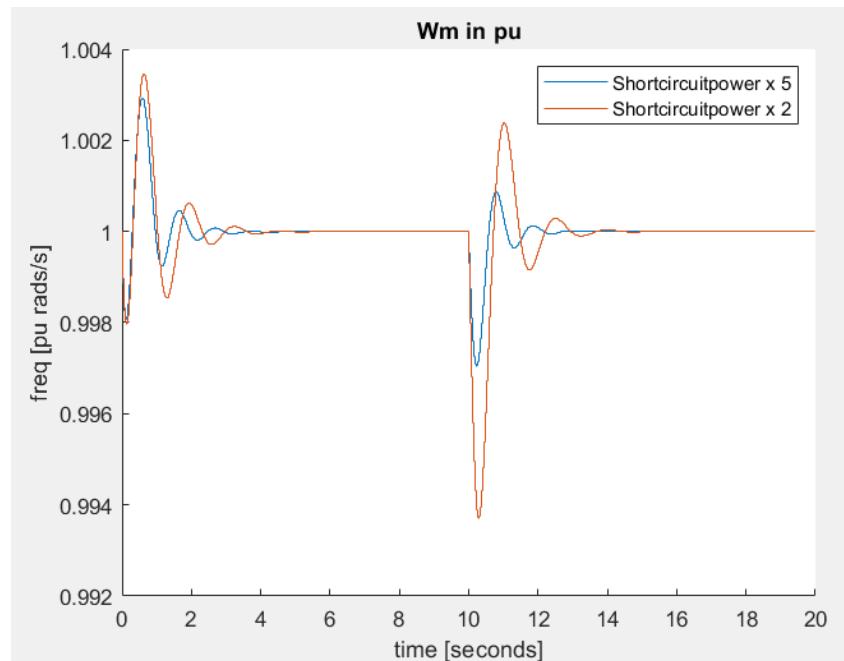
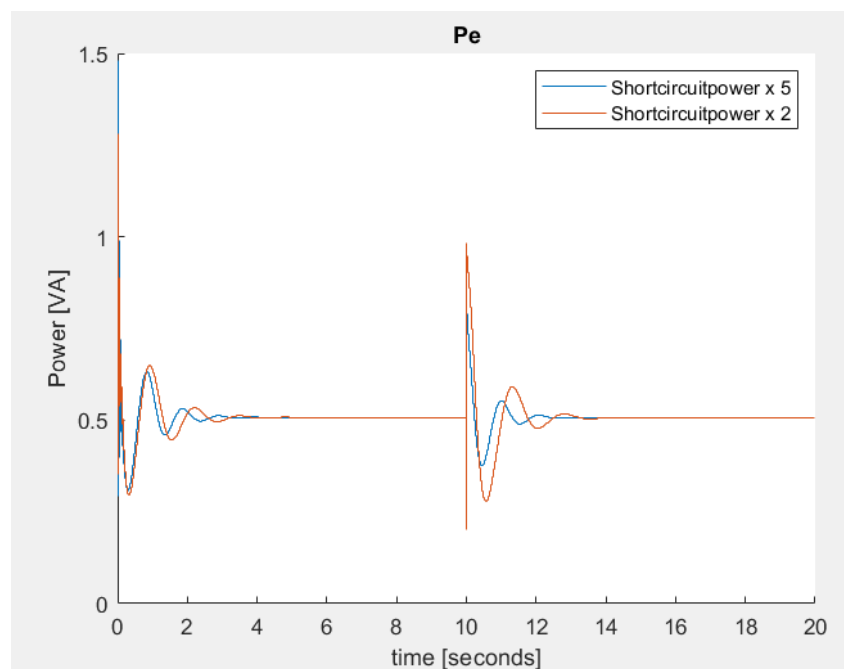
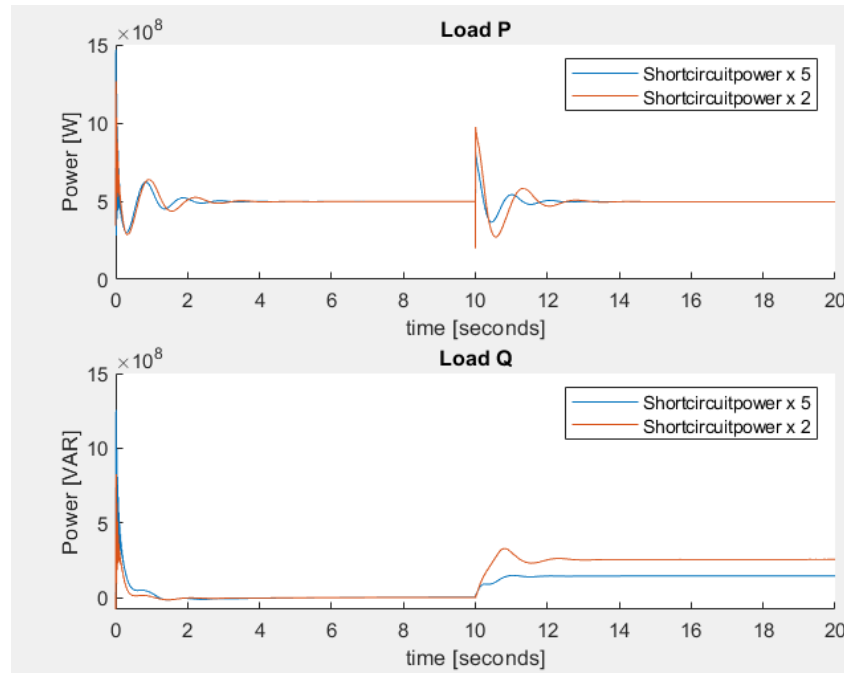

Figure 10: frequency with load connection at 10s
Figure 11: Power delivered by the generator
Figure 12: P and Q in the bus
When real power ratings are integrated into the grid-forming source (introducing impedance that limits the power flow), we begin to observe transients at $t=10$ seconds upon introducing the load. These transients affect the grid frequency Figure 10, the power supplied by the synchronous generator Figure 11, and the active (P) and reactive (Q) power flowing from the bus Figure 12. All transients get "worse" in duration and amplitude the lower is the short circuit capability of the grid forming source.
voltage. Figure 12, lower short circuit power requires less additional Q needed.